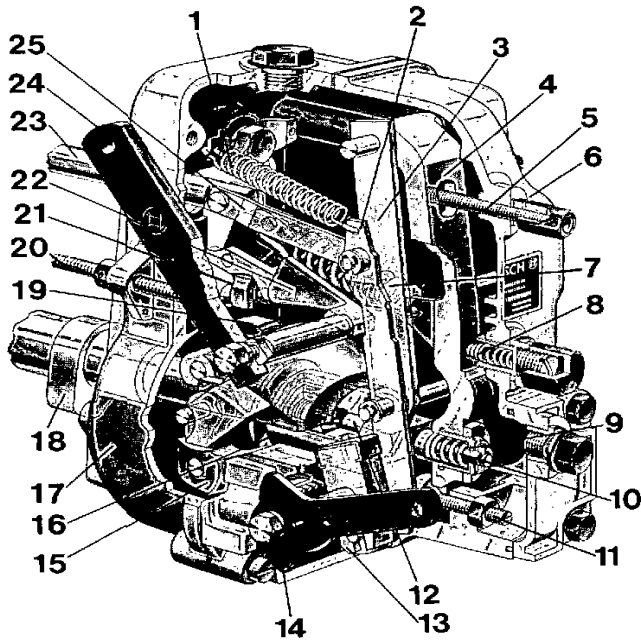

Fig. 116. Centrifugal governor, RSV
11. Stop bolt for high max. quantity (on engines with RSV governor the stop screw on governor 11, fig. 116 should be used)